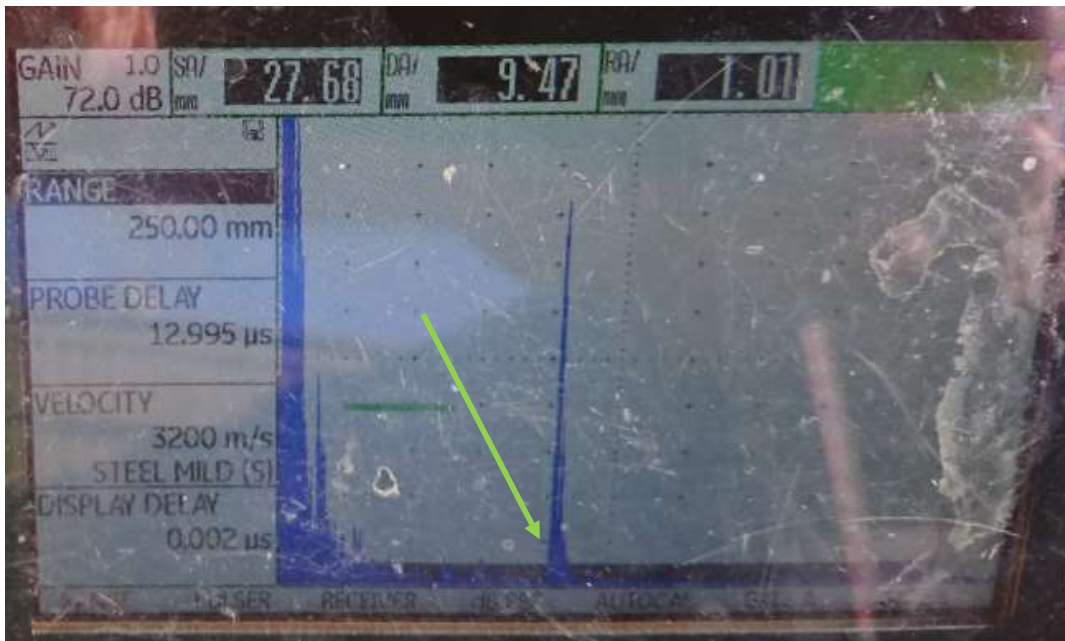

Figure 2 - Appropriate positioning of bolt hole return signal with 35° probe
- *In defect free rail the range can be adjusted to position the return signal from a bolt hole at approximately one third of the way across the screen (figure 2). The sensitivity can be adjusted to ensure that a good “rolling” return signal is seen. It will be near the right hand edge of the screen, corresponding to the base of the rail, ~ approx. 190mm in 53kg rail (this will also be a double check of range).*